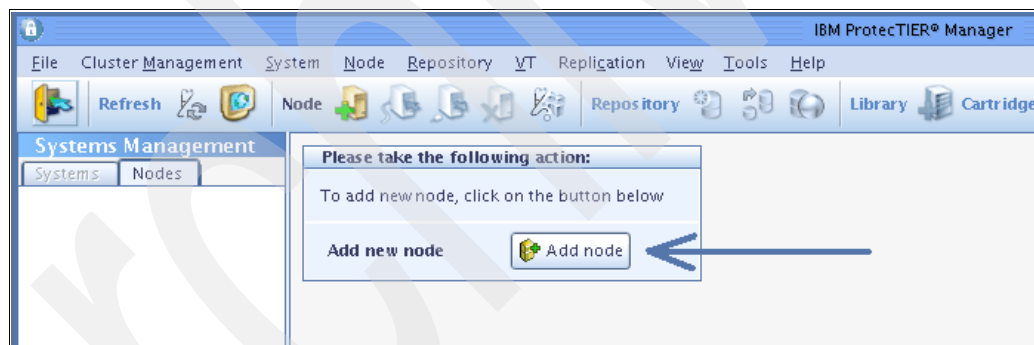

Figure 6-20 PT Manager Add node
2. On the ProtecTIER Manager toolbar, click **Add node**; see Figure 6-20.